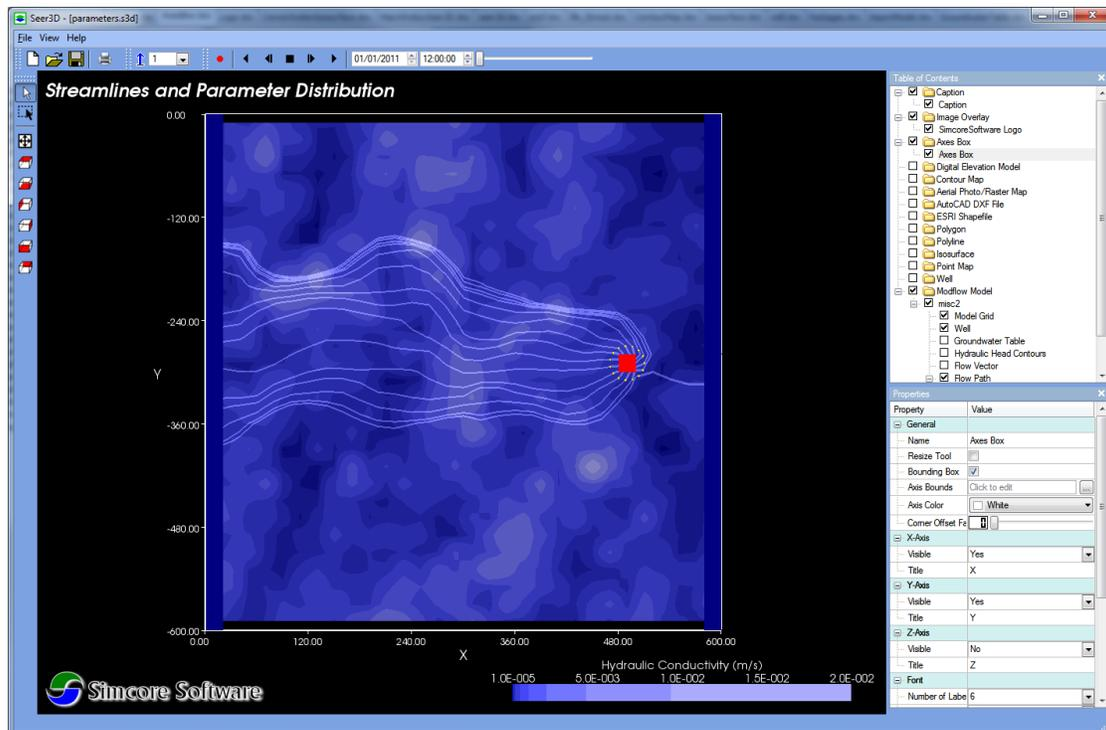

Figure 4.3. An axis-aligned bounding box showing X and Y axes around a model
3. Click on the newly added item to display its Properties window that you can use to adjust the display settings as described in the *Properties* below. Figure 4.3 shows an example of an axis-aligned bounding box and the X and Y axes around the outer edge of a model.